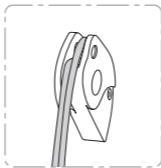

Figure 12
- Another factor can be faulty positioning of the loading wire ropes on the cam lobes. This occurs only rarely, and does not compromise the strength of the device. The loading wire rope closer to the cam lobe protruding edge, should go under the pin (**see figures 12 and 13**). If any of the loading wire ropes on your